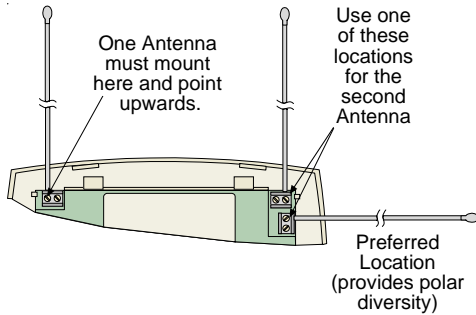

Figure 6- Connecting Antennas
- Insert an antenna into the outside terminal on two of the antenna connectors as shown in Figure 6. Tighten screws to secure the antennas.